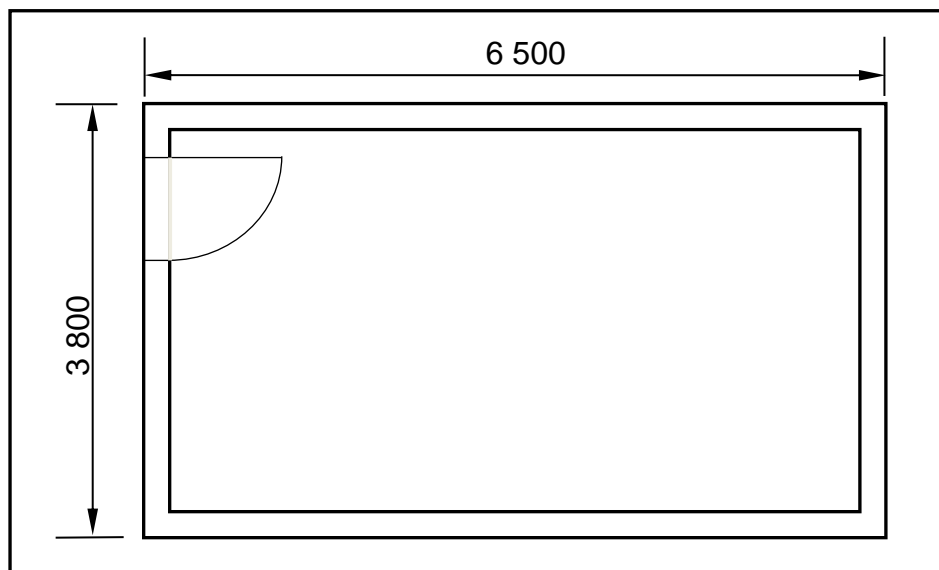

FIGURE 4.6
- 4.6 FIGURE 4.6 below shows the floor plan of a room. You must install ceiling boards and skirtings in this room.